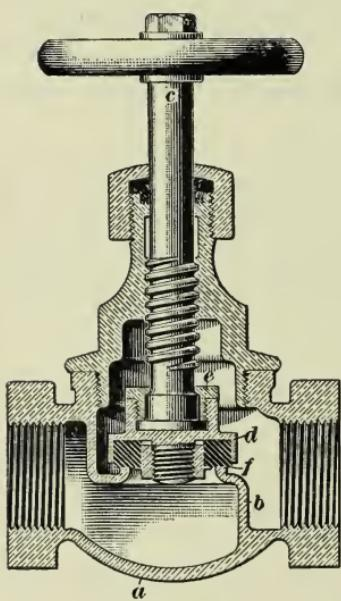

FIG. 67
**102.** Fig. 67 shows a valve known to the trade as the **Jenkins "Diamond" valve**. This has a flat raised seat inside the body *a* of the valve and on
**111.** All the valves shown in Figs. 67 to 72 are known as **compression, or screw-down, valves.**